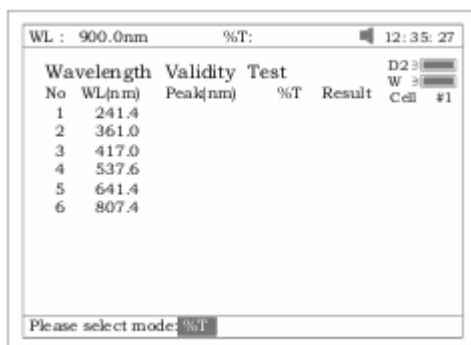

Fig.97
3. Press **【F2】** to select test mode (Abs or %T, Fig 97).